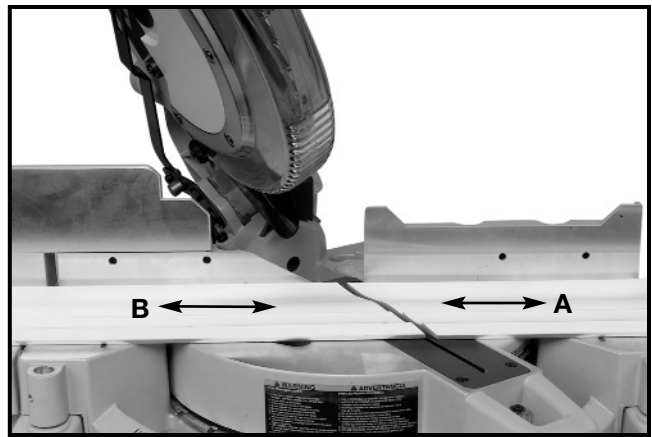
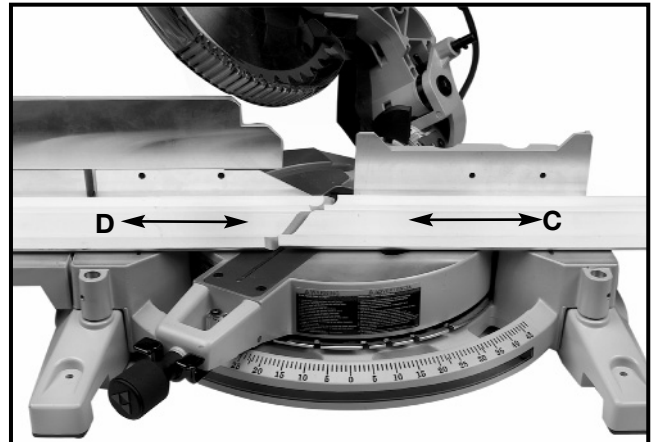
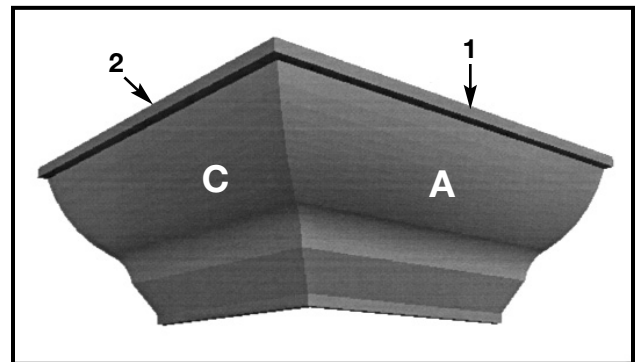
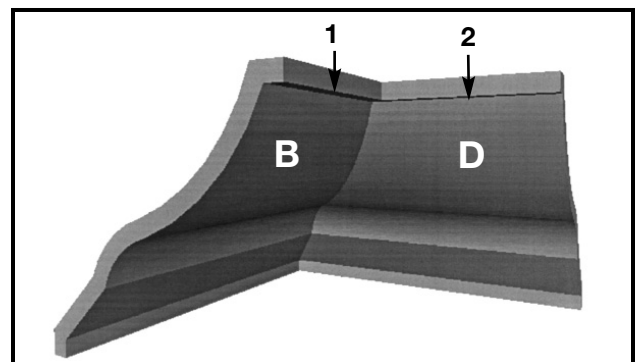

Fig. 37
Fig. 38
Fig. 39
Fig. 40
3. Place the crown moulding on the table with the **CEILING EDGE** of the moulding against the fence, and make the cut, as shown in Fig. 37.
NOTE: The piece of crown moulding used for the outside corner will always be on the right hand side of the blade, as shown at (A) Fig. 37. The piece of crown moulding used for the inside corner will always be on the left hand side of the blade, as shown at (B) Fig. 37.
5. Place the crown moulding on the table with the **WALL EDGE** of the crown moulding against the fence and make the cut. Again, the piece of crown moulding used for the outside corner will always be on the right side of the blade, as shown at (C) Fig. 38. The piece of crown moulding used for the inside corner will always be on the left side of the blade, as shown at (D) Fig. 38.
6. Fig. 39 illustrates the two outside corner pieces; (1) being the piece cut at (A) Fig. 37 and (2) being the piece cut at (C) Fig. 38.
7. Fig. 40 illustrates the two inside corner pieces; (1) being the piece cut at (B) Fig. 37, and (2) being the piece cut at (D) Fig. 38.